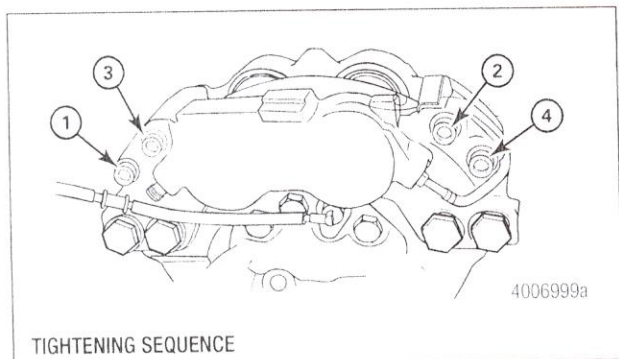
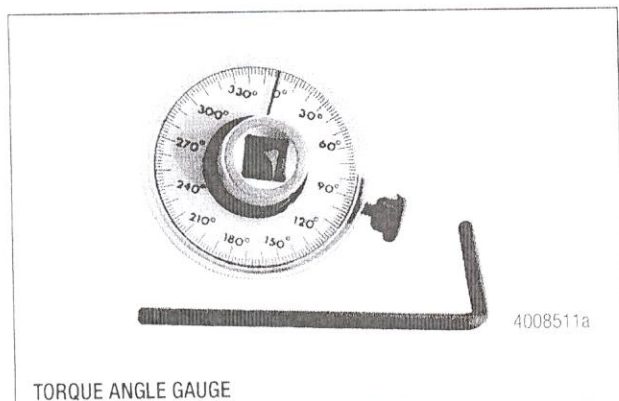

Figure 1
Figure 2
- A. Tighten all four bolts to an initial torque of 50 lb-ft (68 N•m) in the sequence 1, 2, 3, 4. Figure 1.
- B. Use torque angle equipment, OTC torque angle gauge (OTC part number 4554) or equivalent, to turn the bolts $70 \pm 3/-2$ degrees in the sequence 1, 2, 3, 4. Figure 1 and Figure 2.